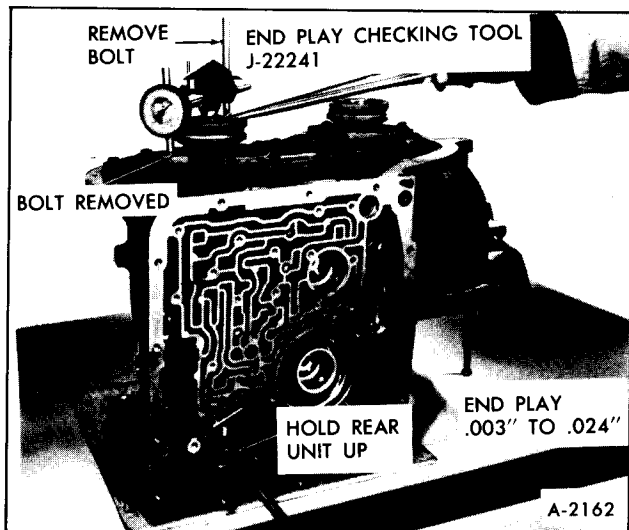

Figure 36—Checking Front Unit End Play
1. Install Front Unit End Play Checking Tool, J-22241, into driven sprocket housing so that the urethane on the tool can engage the splines in the forward clutch housing. Let the tool bottom on the mainshaft and then withdraw it approximately 1/8 inch and tighten nut on tool, Figure 36.
3. Mount Dial Indicator, such as J-8001, on slide hammer bolt and index indicator to register with the Front Unit End Play Checking Tool, J-22241, Figure 36 and push tool down to remove slack.